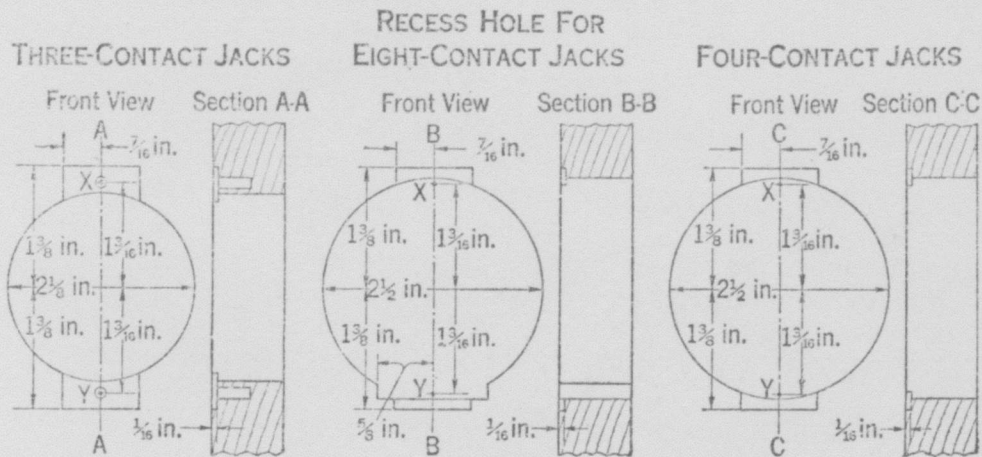

Fig. 4.
- (b) Mark center of line XY and mark the 1-3/8 in. dimensions for yoke as indicated in Fig. 4.
- (c) Using the center of line XY as the center, bore hole through baseboard or chair rail with expansive bit set to the diameter indicated in Fig. 4 for the type of jack to be installed.
- (d) Make cutouts for yoke with wood chisel as indicated in Fig. 4. If an eight-contact jack is to be installed, cut sides of the larger cutout with a keyhole or compass saw. Also, if a three-contact jack is to be installed, bore two 1/8 in. holes as indicated in Fig. 4.